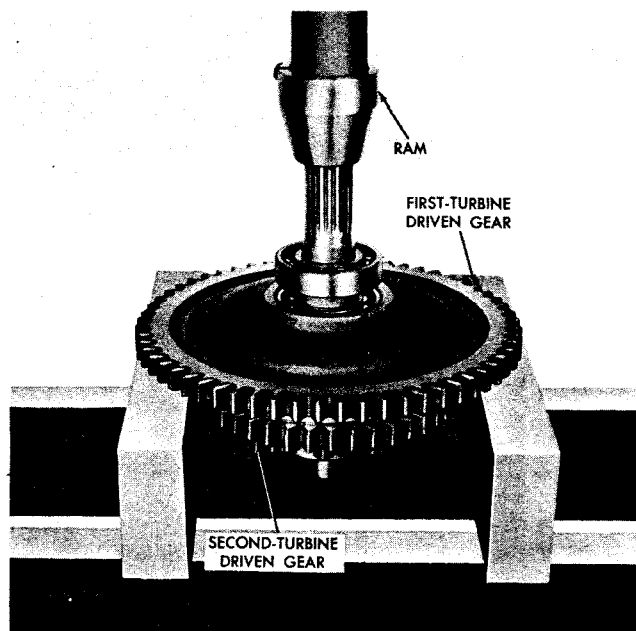
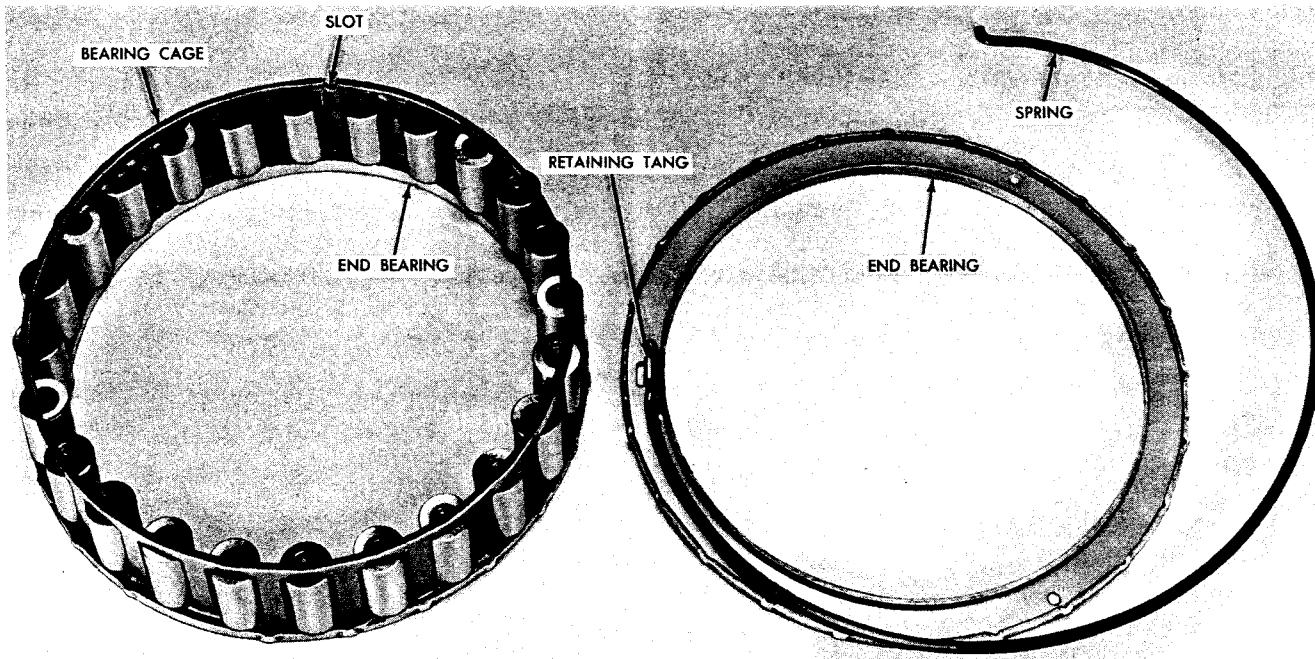
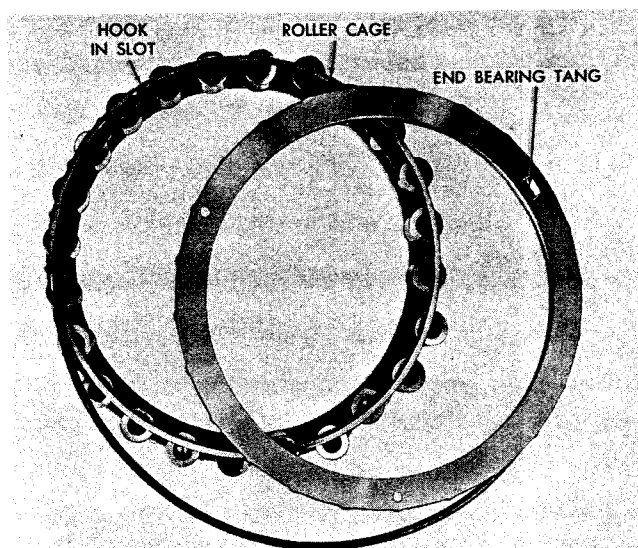

Fig. VI-5. Pressing second-turbine driven gear and freewheel unit out of first-turbine driven gear
Fig. VI-6. Freewheel clutch bearing cage and end bearing
Fig. VI-7. Starting spring and end bearing on roller cage (in units with S/N 101 through 151)
(1) Press second-turbine driven gear assembly 3 out of first turbine driven gear 16 (fig. VI-5). Ball bearing 20 (B, foldout 4) and spacers 19 and 17 will come out as loose pieces.
(2) Remove ball bearing 18 from gear 16 for greater ease in assembly.
(3) Remove twelve nuts 2 from twelve bolts 8.
(4) Using a screwdriver, pry freewheel cam 5 from second-turbine driven gear 3.
(5) Remove twelve bolts 8 and freewheel cam washer 7 from freewheel cam.
(6) Remove roller clutch assembly 6 from freewheel cam 5. The end bearing and spring may come off of one side of the clutch assembly (fig. VI-6). Do not separate the end bearing and spring. One of the end bearings and springs will not come off.
(7) Do not remove ball bearings 1 (B, foldout 4) and 4 from second-turbine driven gear 3 unless necessary. If necessary, drive or pull off the bearings.
(1) Press the second-turbine driven gear assembly out of the first-turbine driven gear (fig. VI-5). Ball bearing 20 (B, foldout 4) and spacers 19 and 17 will come out as loose pieces. Also rollers 12 will fall out of roller cage 11. Care should be taken so none will be lost.
(3) Remove twelve nuts 2 from twelve bolts 15.
(4) Using a screwdriver, pry freewheel cam 13 loose from the second-turbine driven gear 3.
(5) Remove spring plate 10 (B, foldout 4), roller cage 11, twelve bolts 15 and oil collector 14 from freewheel cam 13.
(6) Do not remove ball bearings 1 and
(1) If the transmission had an orifice tube installed in second-turbine driven gear 3 and it was removed, install the tube in the gear. Press in until it extends 0.380 to 0.420 inch from the end of the gear.
(2) If ball bearings 1 and 4 were removed from second-turbine driven gear 3, install the bearings.
(3) If the roller clutch assembly was disassembled, make certain the spring is still retained in the end bearing by the tang (fig. VI-6). Insert the hook of the opposite end of the spring in the slot in the roller cage (fig. VI-7).
(4) Hold the end bearing and roller cage assembly in one hand and roll the other end bearing counterclockwise so that the spring